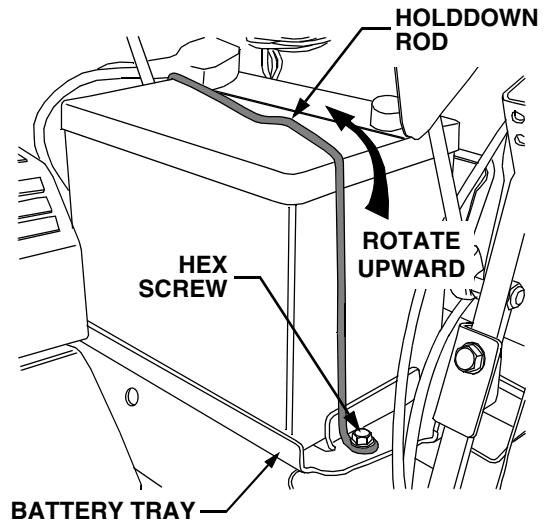

Figure 27
2. Remove the hex screw securing the LH side of the holddown rod to the battery tray (Refer to Figure 27).